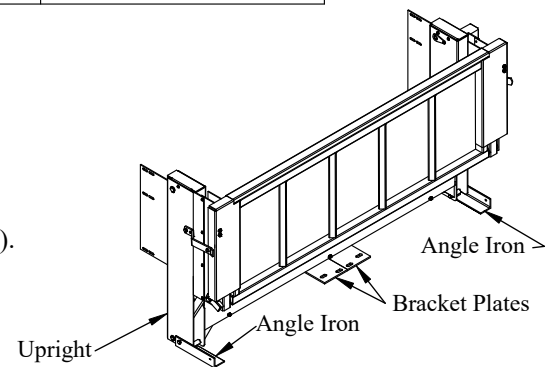

Figure 2: Complete liftgate.
4. Unbolt and Save the two (2) angle irons attached to the liftgate upright (Figure 2).
5. Remove and Save the two (2) bracket plates attached to the liftgate (Figure 2).